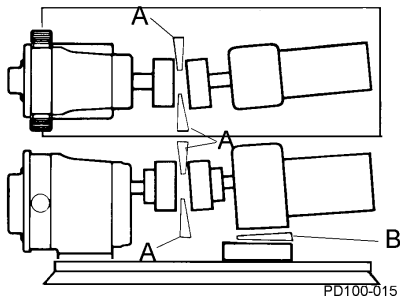

Figure 22 - Check Angular Alignment
1. Using feeler gauges or taper gauges (Figure 22, items A and B), check the alignment at four points every 90 degrees around the coupling; **adjust to equal dimension at all points.**